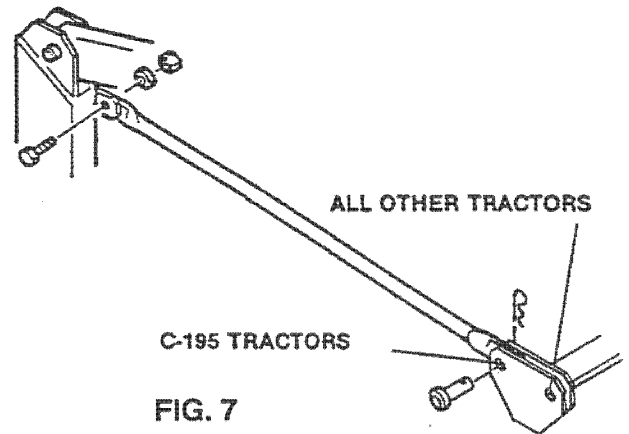

FIG. 7
- Attach brace arms to the front mount using a 1/2 x 1 1/4 clevis pin and #3 clip pin on both sides (See Fig. 7).